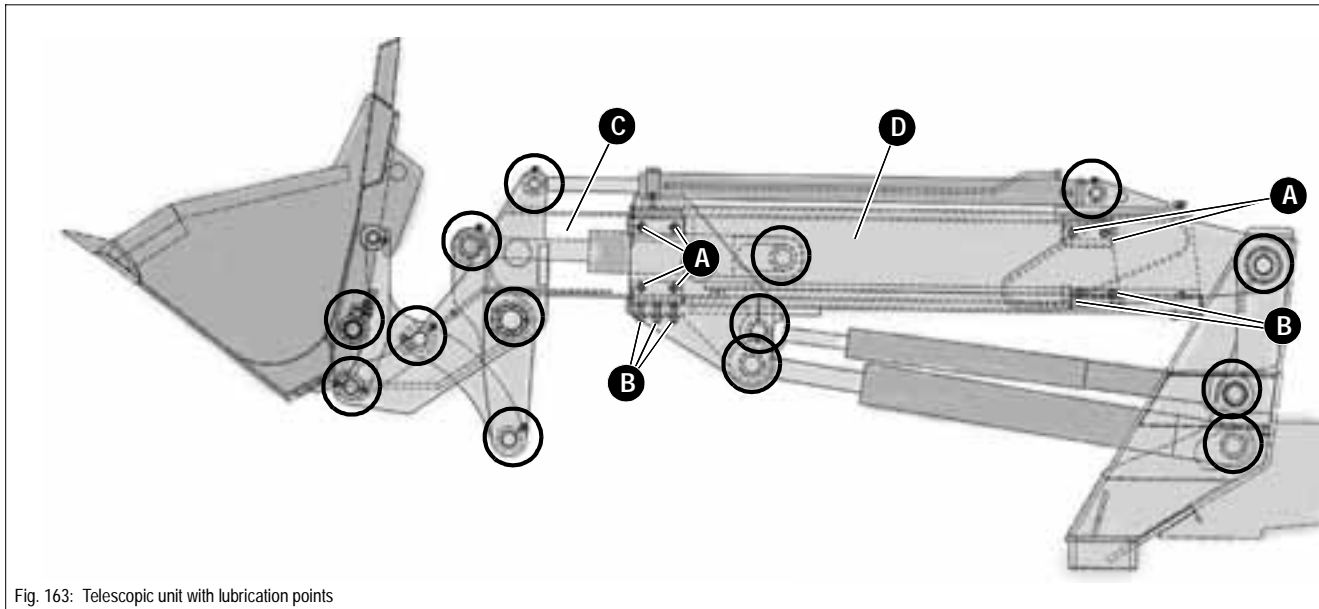

Fig. 163: Telescopic unit with lubrication points
- ☞ Lubricate the grease nipples (circles in figure 163) **every 10 service hour** (or daily) with grease
- ☞ Lubricate the grease nipples (circles in figure 163) **every 50 service hours** (or once a week) with grease